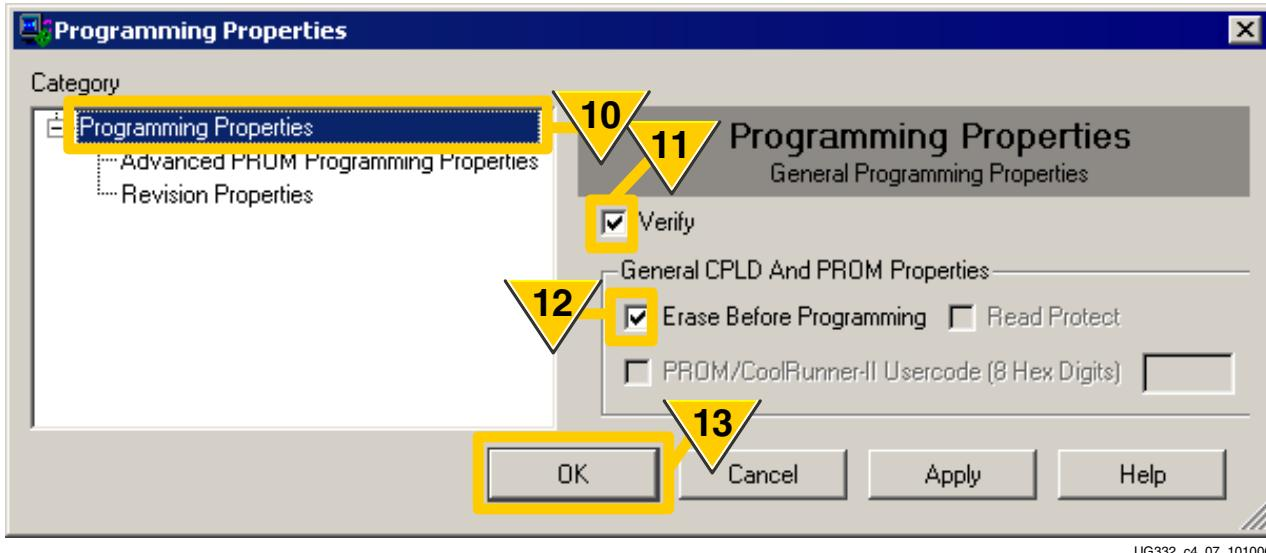

Figure 4-20: SPI PROM Programming Options
10. Click the Programming Properties option under Category, as shown in Figure 4-20.